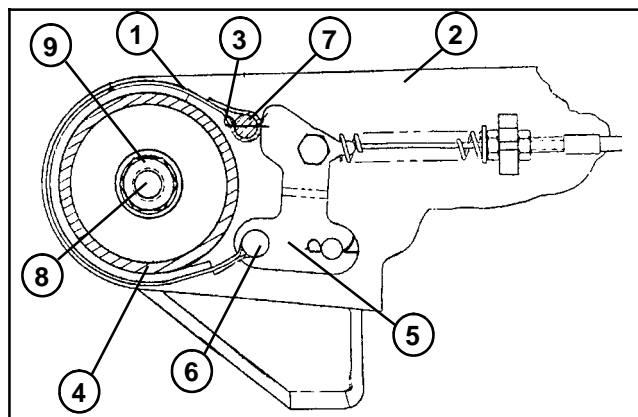

Figure 35
3. Attach new brake band to the counter shaft housing as follows (Fig. 35).